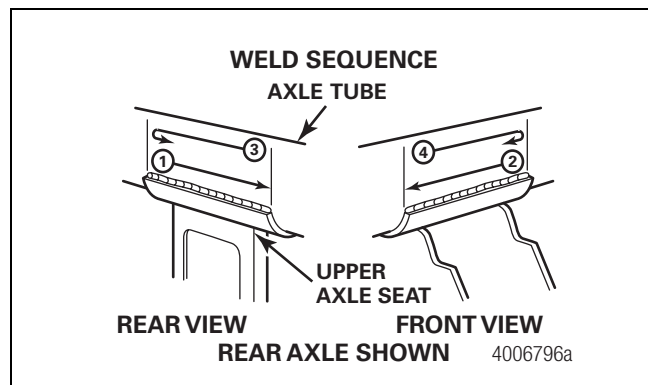

Figure 18
- Apply the weld in the sequence shown in Figure 18. Do 3/16-inch (4.8 mm) root welds one and two (front and back). Next do 3/8-inch (9.5 mm) fillet welds three and four (front and back). Do not stop the process once it is started. Repeat on the opposite seat.